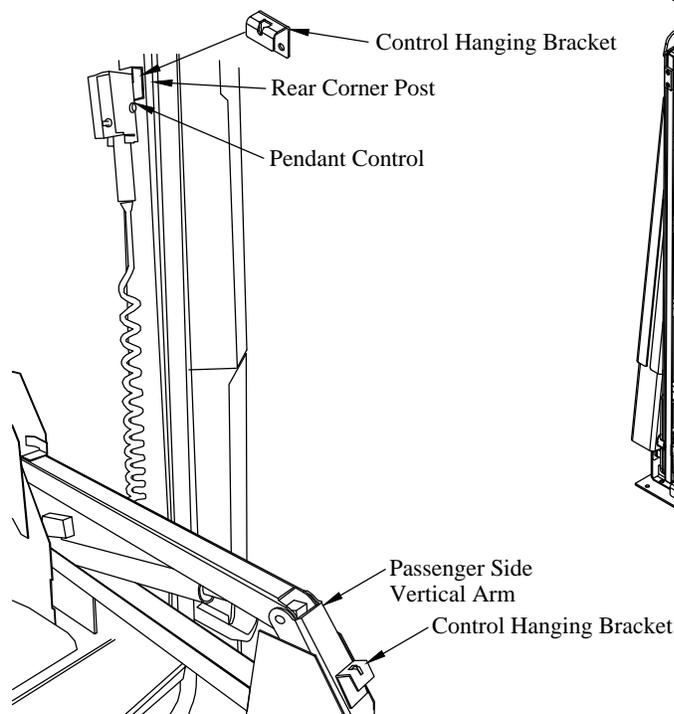

Figure 18: Control Hanging Brackets.
7. **Select** a location to install the control hanging bracket. Use a location on the passenger side rear corner post of the van at a height that allows the entire pendant cord to be completely inside the van when stored (Figure 18).